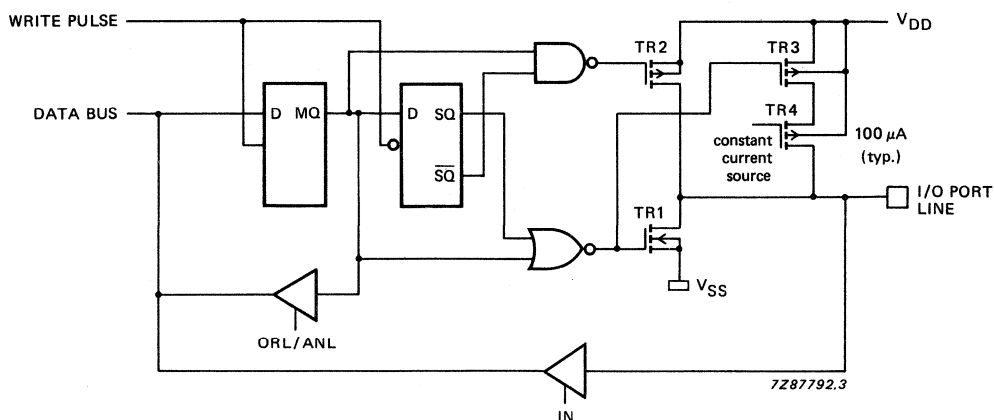

Fig. 11 Standard output with switched pull-up current source.
Figure 11 shows the quasi-bidirectional I/O interface with push-pull output and switched pull-up current source.
1. STANDARD PORT: quasi-bidirectional I/O with switched pull-up current source of  $100\ \mu\text{A}$  (typ.) and P-channel booster transistor TR2. TR2 is only active during 1 clock cycle (Fig. 11).